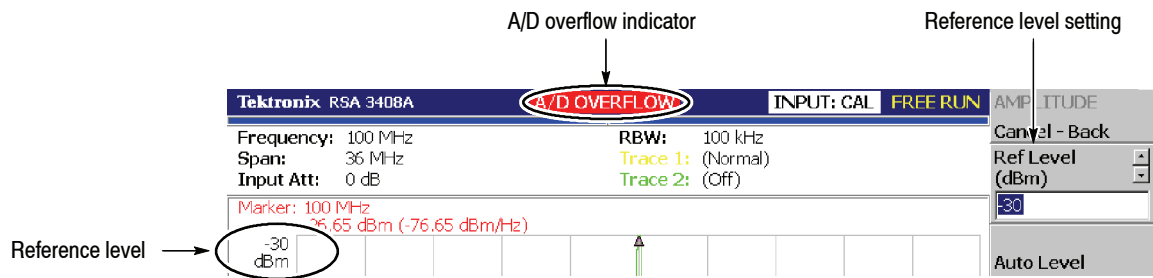

Figure 1-3: Reference level setting and A/D overflow indicator
- b. Make sure that the reference level is set to 0 dBm with the **Ref Level** side key. Check that 0 dBm is displayed on the upper left side of the graticule (see Figure 1-3).
- d. Confirm that A/D OVERFLOW is indicated in the red box at the top center of the screen. Make sure that -30 dBm is displayed on the upper left side of the graticule and that the spectrum waveform is distorted as shown in Figure 1-3.